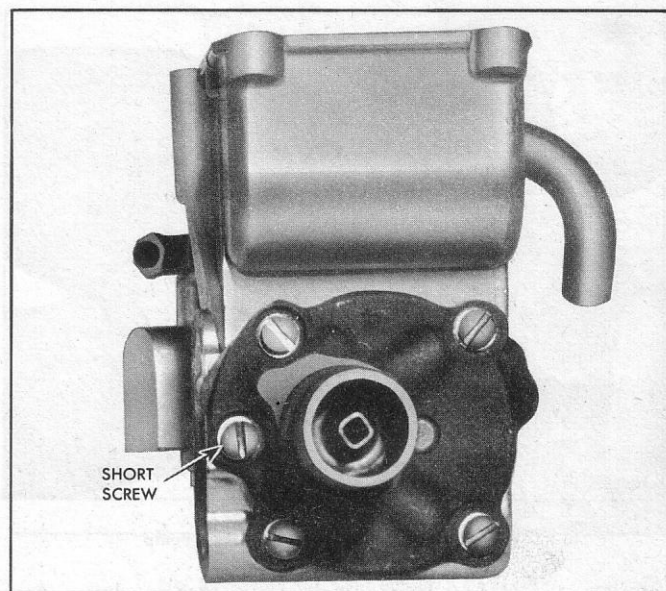

Fig. 51—Fuel Pump Short Screw Location
2. Remove 5 pump attaching screws, noting screw located at 9 o'clock is the shortest (fig. 51). Remove pump and gasket from fuel meter.